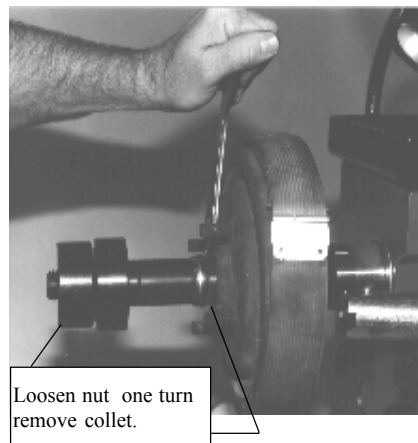

Figure 23
10. To remove a front drum from the arbor, loosen the arbor nut one turn and place the handle end of the spanner between the hub of the drum and the collet in the outer bearing race. Push the top of the wrench down toward the drum to free the collet from the bearing race. A slight hand tap on the wrench may be necessary. **See Figure 23.**